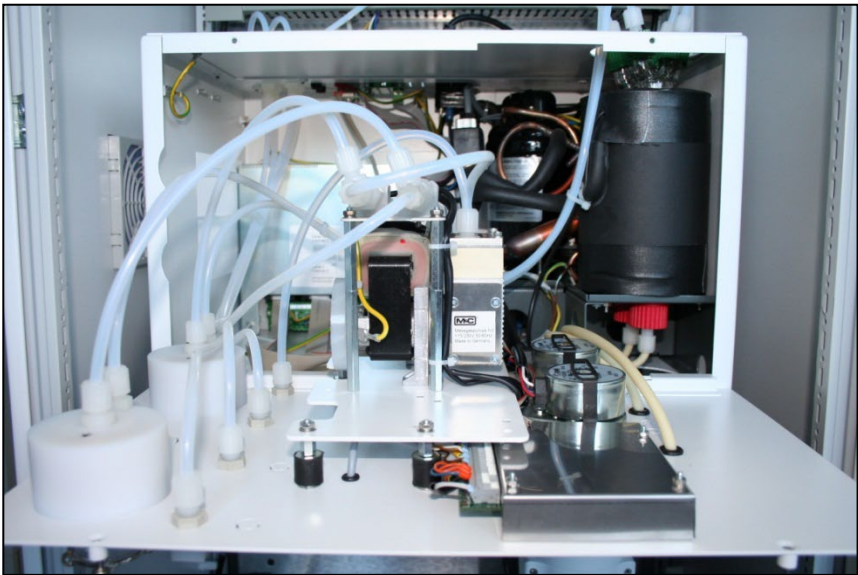

Figure 12 Maintenance of sample gas pump(s)
2. Loosen 4 screws (captive) on the front panel and, without removing the hoses and wiring, bring slightly forward and pull up out of the housing support; the front panel can now be suspended back in the housing holder by rotating it 90° (Figure 12).